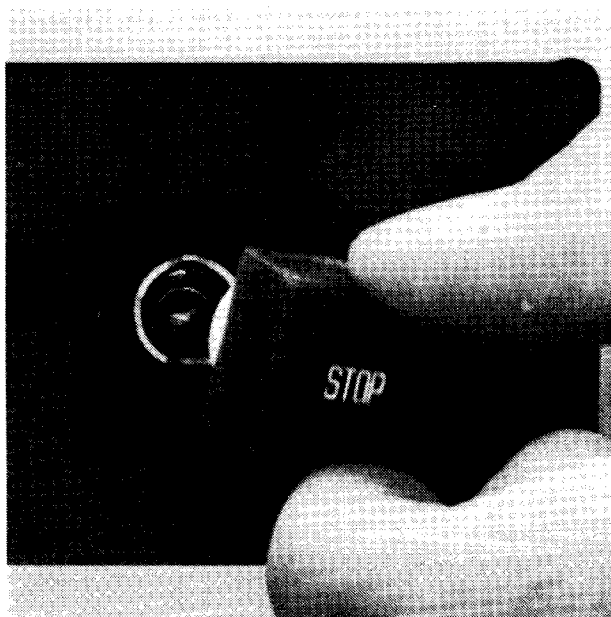

Figure 5-1. Removing Lens from Lamp
1. Remove switch/indicator lens by lifting up lens (Figure 5-1).